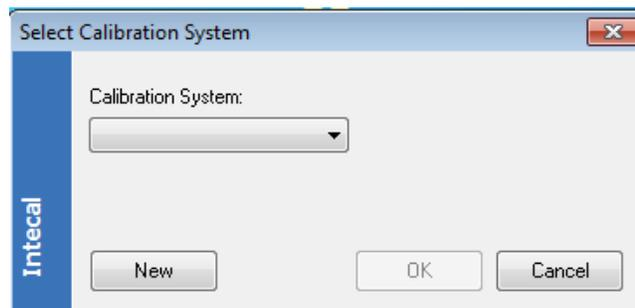

Figure 7-5: Select Calibration System window
2. When the *Select Calibration System* window opens (Figure 7-5), select an applicable *Calibration System* from the drop-down list or click on the *New Calibration System* button.
4. When the *Select Calibration System* window opens (Figure 7-5), select an applicable *Calibration System* from the drop-down list or click on the *New Calibration System* button.